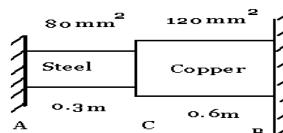

Figure 8
37. A stepped bar shown in **Figure 8** is fixed at its two ends rigidly. The bar is free from stresses when its temperature is 30°C . When the temperature of the bar is increased to 90°C determine i) Stresses induced in steel and the copper portions and ii) Displacement in the junction at point C. Take $\alpha_c=1.8\times 10^{-5}/^\circ\text{C}$, $\alpha_s=1.2\times 10^{-5}/^\circ\text{C}$, $E_c=100\text{Gpa}$, $E_s=200\text{Gpa}$.